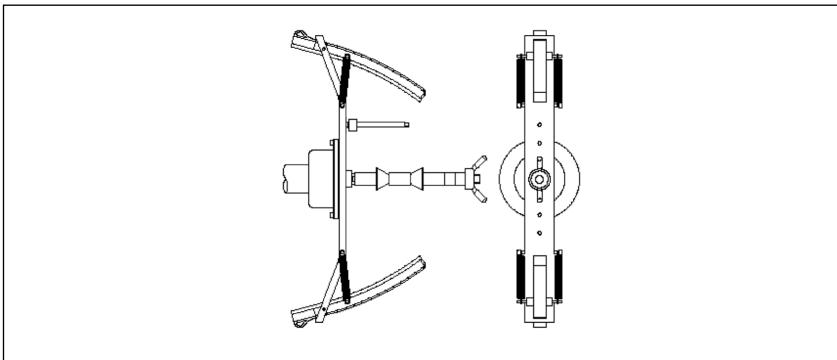

Fig. F4.3 Arranging calibration balance weight on the inner side of the fixture (in Cal3 stage) .
1) The machine will display **cal--h12** after rotation. Arrange the calibration balance weight in the hole marked with "CAL" on the outer side. See Fig. F4.3.